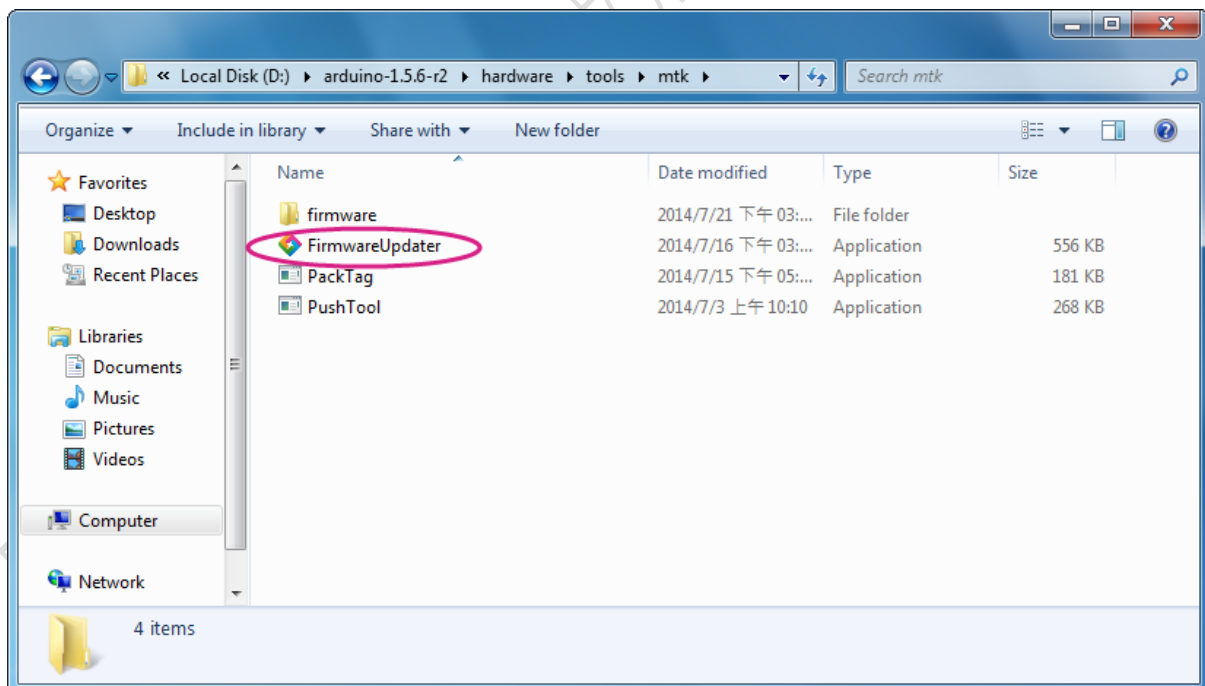

Figure 14 The location of LinkIt Firmware Updater in the Arduino IDE folder
- 2 Launch LinkIt Firmware Updater, which is located in the Arduino IDE folder under hardware/tools/mtk, as shown in Figure 14.